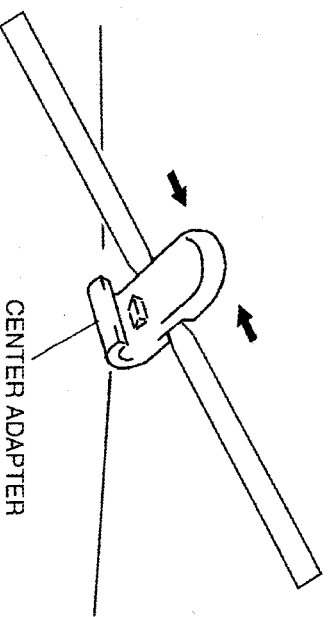

FIGURE 27
- 3.) PRESS THE SUNVISOR CENTER ADAPTER TABS AS SHOWN USING TWO FIBER STICKS, AND REMOVE THE CENTER ADAPTER. (SEE FIGURE 27)